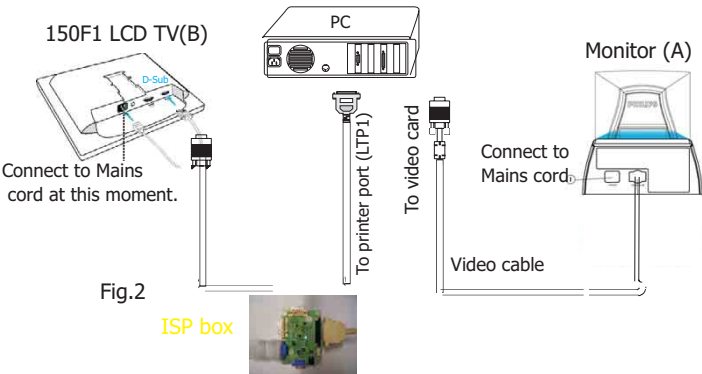

Fig.2
- 5. Connect DDC2BI\_ISP TOOL and Mains cord to Monitor as shown in Fig. 2.